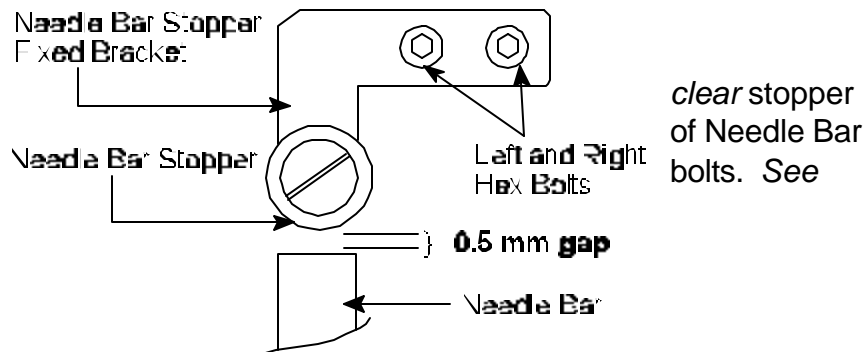

Figure 19
30. Take a business card width (0.5 mm), place between *white* stopper and top of Needle Bar Assembly then secure hex bolts. See Figure 19.